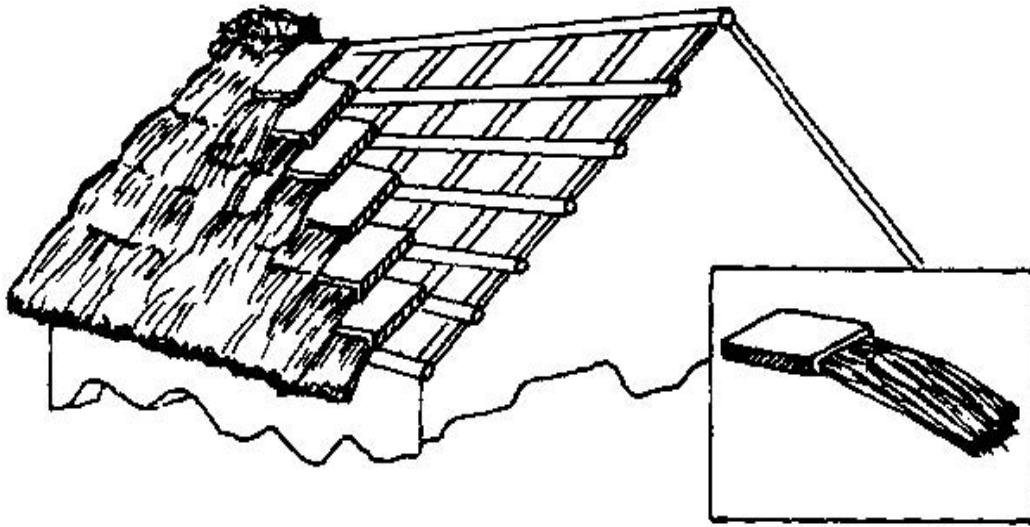

Figure 89. A thatched-earth tile roof of this design proved successful in research studies in India.
*EARTH TILE ROOFS* - Earth tile have also been used for roofs. They can be pressed in a block making machine by using fillers. They can also be of sun-dried adobe but in either case it is best to stabilize the earth. The tiles are placed on a wooden frame just as shingles are. The tiles should be 1 1/2" to 2" thick and about 1' long. Good sun-dried tiles are made with a thatch (or grass) "tail." See Figure 89. The thatch tail helps prevent rain from eroding the block, and provides insulation for the inside of the house.